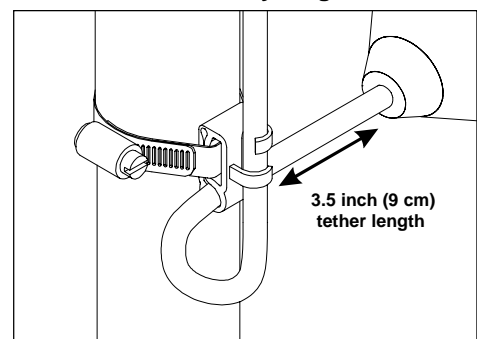

FIGURE 5 - Mounting clamp detail
4. Place the cord into the clamp as shown in **Figure 5**.
5. Locate the clamp at the desired activation level and secure the clamp to the discharge pipe as shown in **Figure 5**.